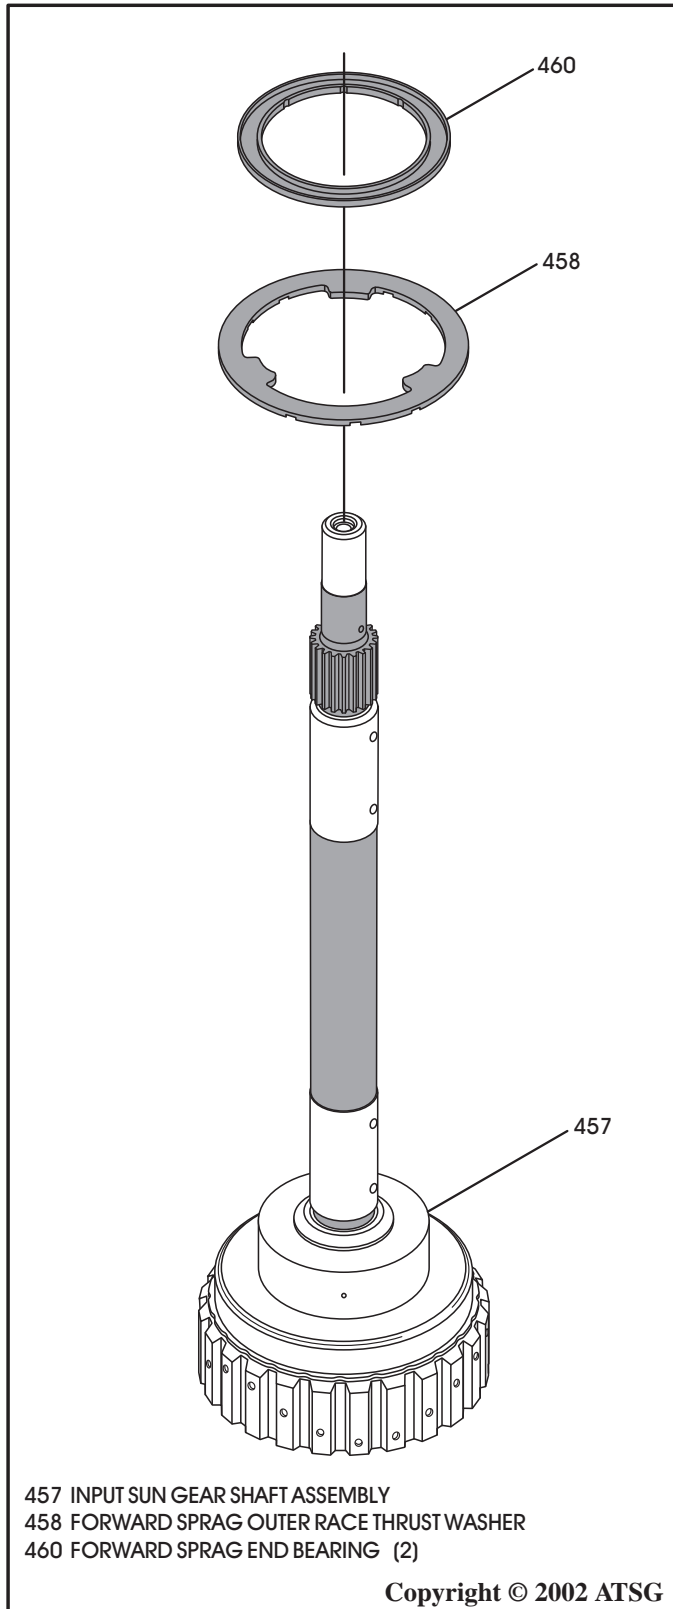

Figure 100
4. Stand sun gear shaft up on the hub as shown in Figure 100, on a flat work surface.
5. Install thrust washer (458) on sun gear hub and shaft, as shown in Figure 100.
6. Install one forward sprag end bearing on sun gear hub and shaft, as shown in Figure 100.